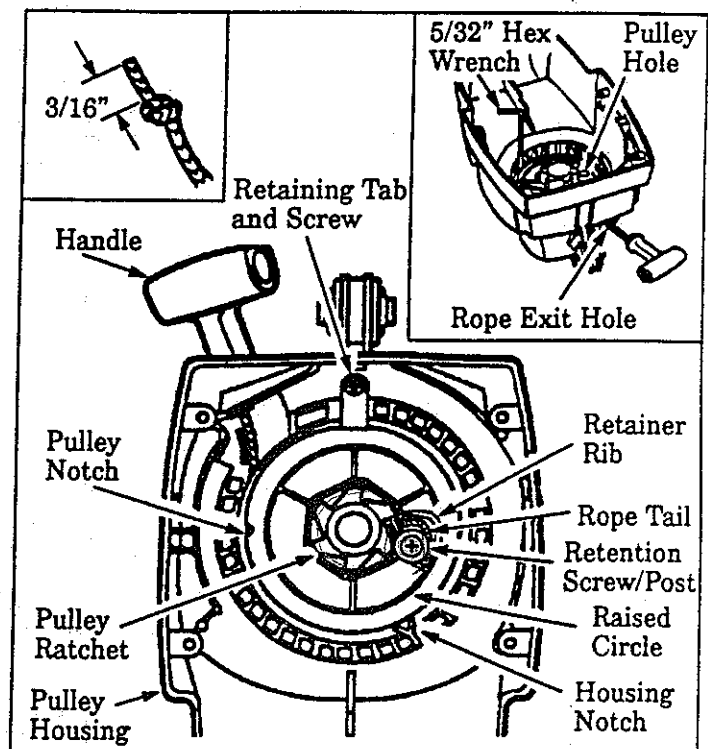

Figure 22
6. Remove Retention Screw. Figure 22 . Untie Rope around the Pulley Ratchet and pull the Rope out of the Pulley Housing. Figure 22 .
7. Position the Pulley Housing as shown in Figure 22 . Hand turn the Pulley clockwise → as far as it will go. Then, turn the Pulley counterclockwise ← until the Pulley Notch is aligned with the Housing Notch. Figure 22 . Next, turn the Pulley one complete turn counterclockwise ← until the notches are aligned again.
8. Insert the small hex wrench into the hole formed by the Notches to hold the Pulley in position. Figure 22 (inset-upper right).
12. Insert one end of the Rope through the Handle and secure with a knot. Leave a 3/16" pigtail behind the knot. Figure 22 (inset-upper left).
13. Insert the other end of the Rope through the Rope Exit Hole into the inside of the Housing, into the Pulley and up through the Pulley Hole. See Figure 22 (inset-upper right).
14. Wrap Rope counterclockwise ← around the Pulley Ratchet and tuck loose end under Rope at the Pulley Hole. Leave a 1 inch tail laying flat on top of the Pulley between the Retainer Rib and the Retention Post. Figure 22 .
15. Re-install the Retention Screw. Pull firmly on the rope to tighten it against the Pulley Ratchet. The rope tail *must not* extend beyond the Raised Circle on the Pulley to prevent interference with the Retaining Tab. Figure 22 .